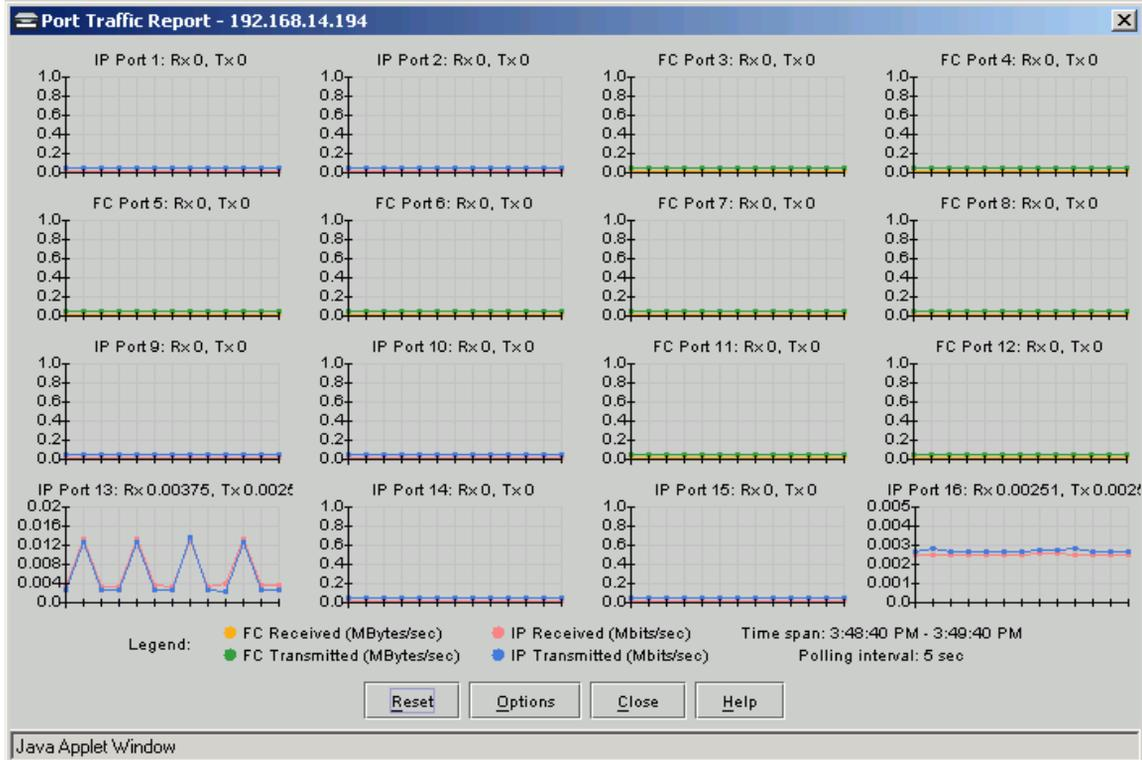

Figure 6-17 Port Traffic Report
1. Select *Statistics/Info>Port Traffic* to display the *Port Traffic Report* dialog box (Figure 6-17 on page 6-22).